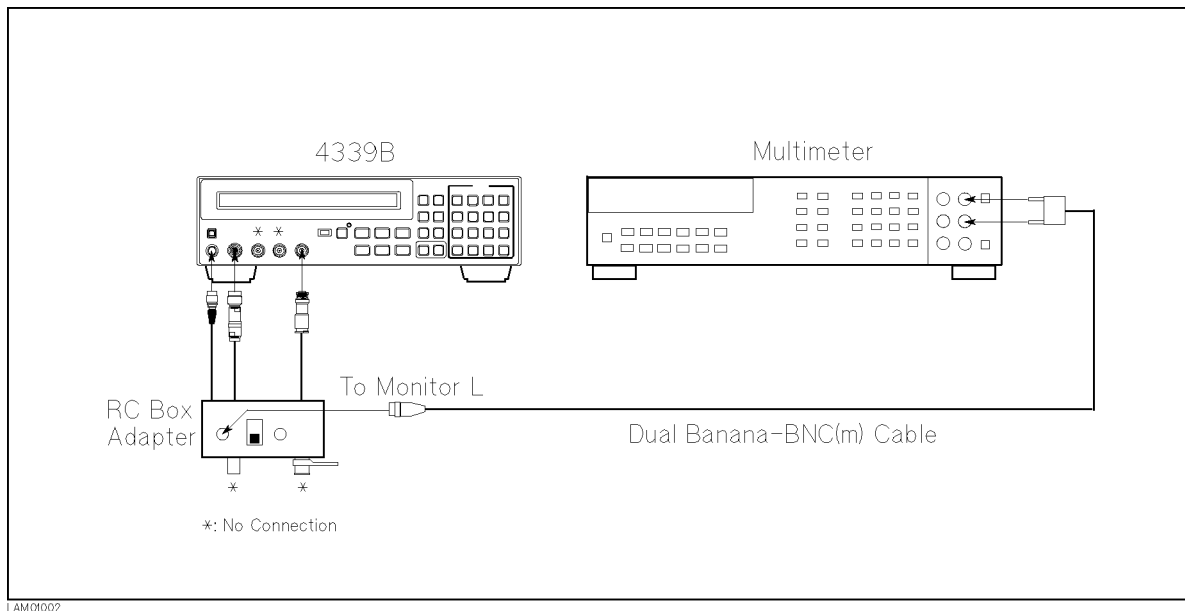

Figure 9-2. Ammeter Offset Voltage Test Setup
- Set up the equipment as shown in Figure 9-2.